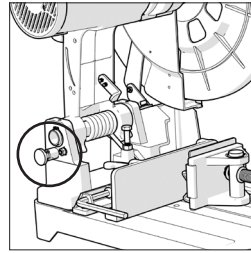

Fig. 1
- Pull out the head latching pin and lock in the outer position (Fig. 1) Allow the cutting head to rise to its upper position.